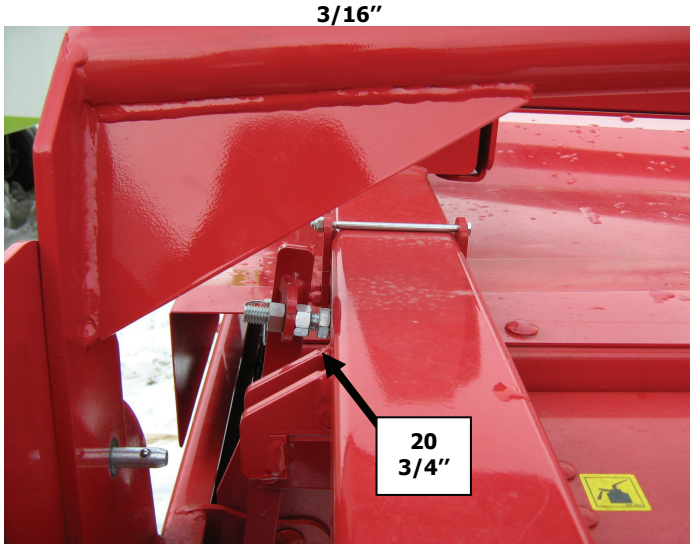

Figure 8.10 Trigger limit stop
8.10 → The trigger (Figure 8.10#20) must be adjusted to about 3/4" from the pusher.